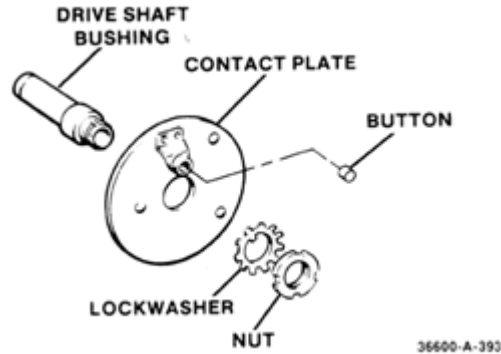

Figure 5-49. Contact Plate Assembly
19. Insert end of shaft in contact plate assembly (Figure 5-49), through commutator and side plate, and secure with retaining ring. Lift up gently on contact so it slides over commutator.